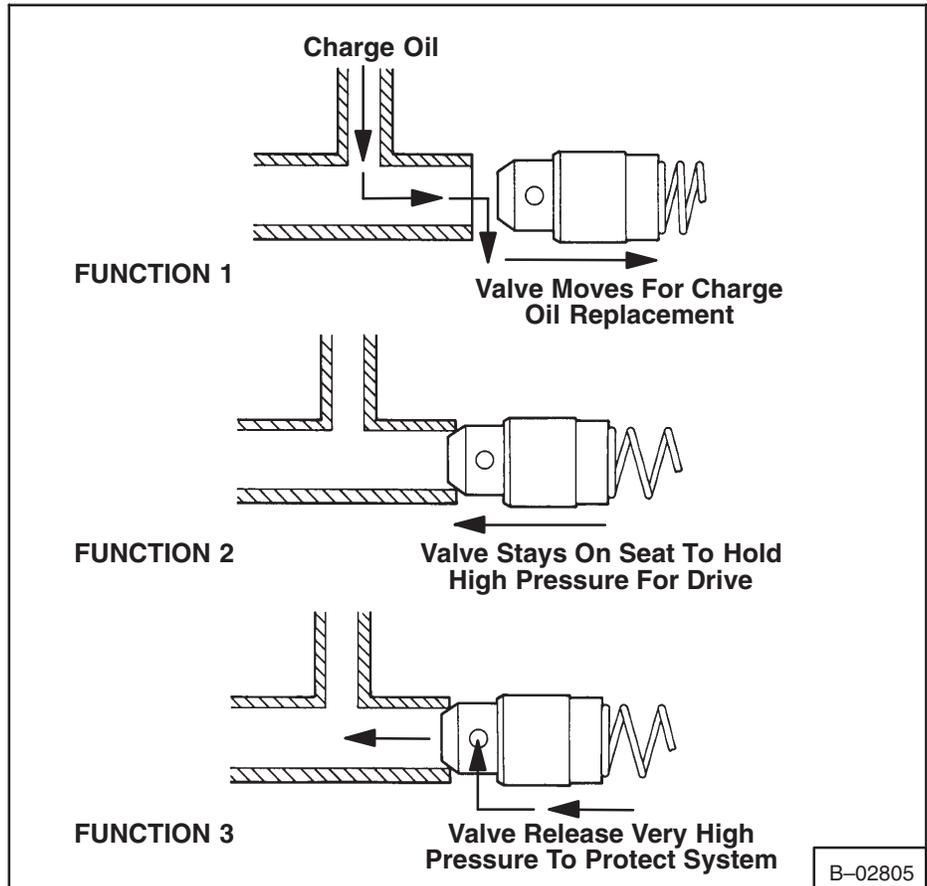
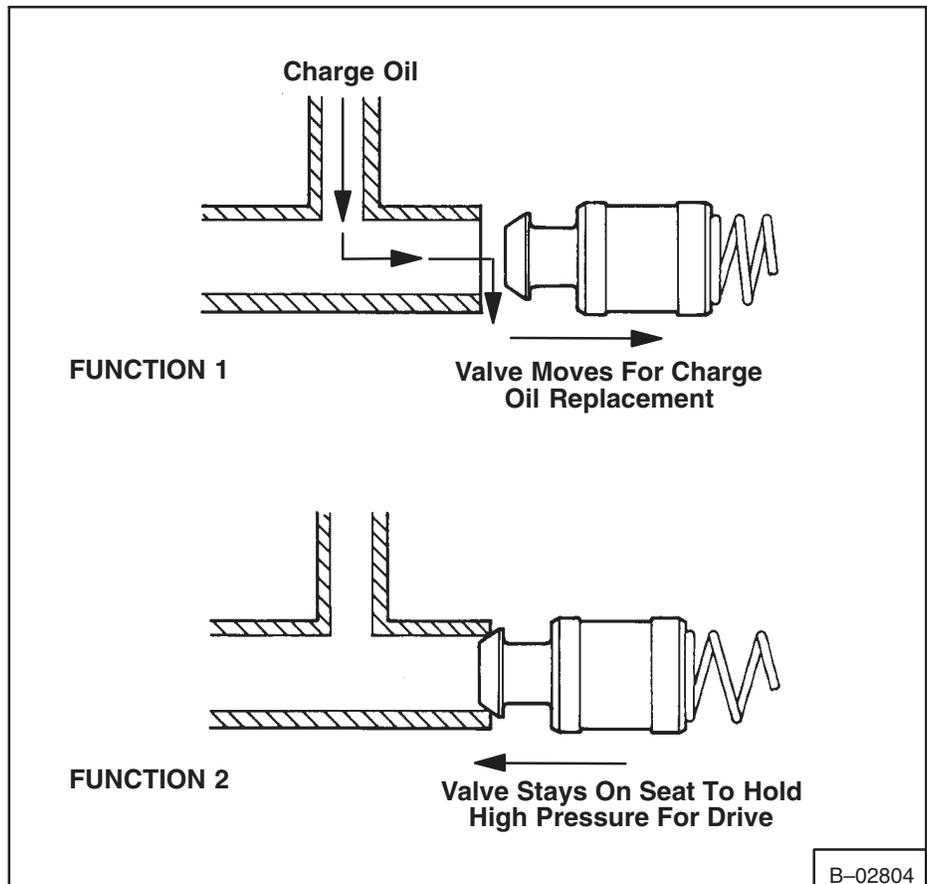

Fig. 3-1 Replenishing Valves (Forward)
Fig. 3-2 Replenishing Valves (Reverse)
1. To give replacement oil to the low pressure side of the closed hydrostatic circuit. Replacement oil is needed because of normal inside leakage and the controlled flow to the oil cooler for cooling purposes (Fig. 3-1, Function 1 & Fig. 3-2, Function 1).
2. To keep high pressure flow of oil out of the low pressure side of the closed hydrostatic circuit (Fig. 3-1, Function 2 & Fig. 3-2, Function 2).
3. To release high pressure caused by a heavy load of the machine when moving forward (Fig. 3-1, Function 3).